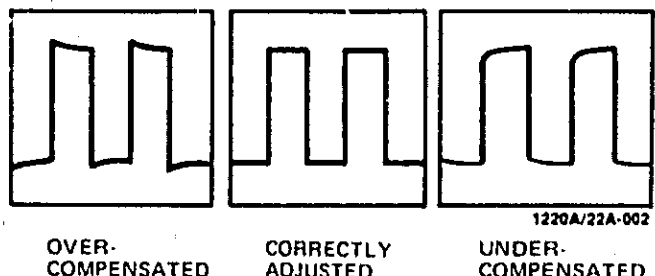

Figure 3-2. Divider Probe Adjustment Display
f. Adjust divider probe compensation for correct display (see figure 3-2).